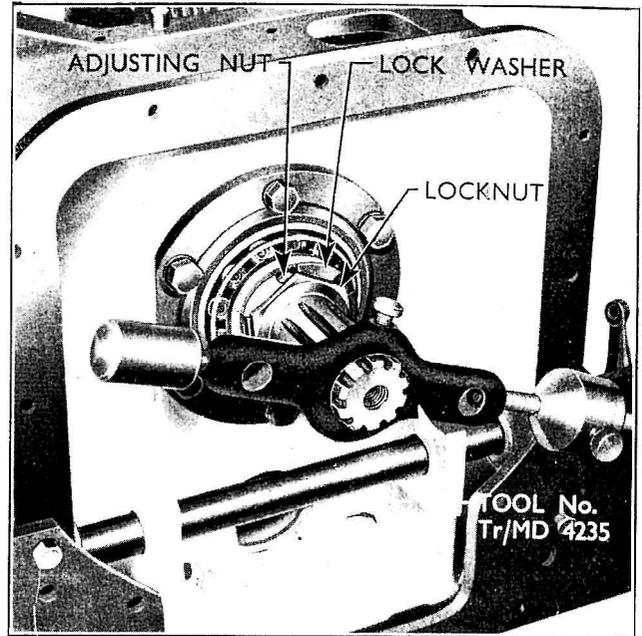

Fig. 177
- 2 Tighten up the adjusting nut and check that the bearing pre-load is between 12 to 16 in. lbs., using the tools Nos. Tr/MD 4634, Tr/MD 4610 and Tr/MD 4235, as shown in Fig. 177. Lock and secure the lockwasher and recheck the pre-load.